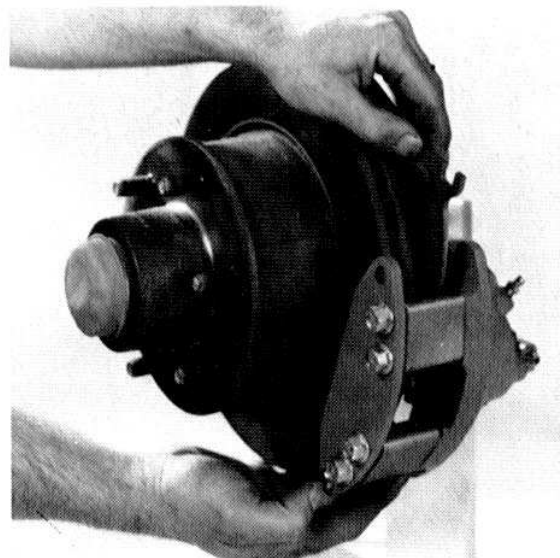

Fig. 26
1. With piston pushed in and caliper pushed inboard so outboard plate is against rotor, install lining between piston face and disc, being careful not to pinch boot between lining backing plate and piston. (Fig. 26)